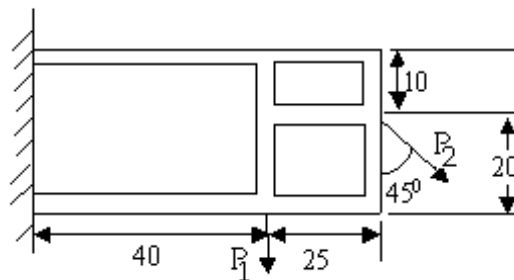

Figure 1
- (b) Find the shear flow in each web of the beam shown in the figure 1. Plot the distribution of axial load along each stiffening member when $P_1=20\text{kN}$ and $P_2=10\text{kN}$. All dimensions are in cm. [6+10]